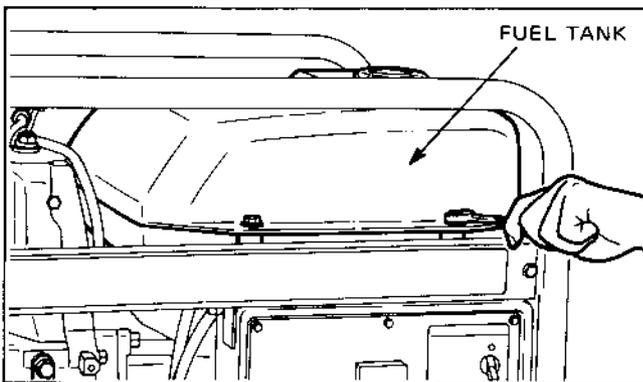

Fig. 10-3
| | | (3) Remove the fuel tank. After removing the nut and washer, remove the fuel tank. (See Fig. 10-3.) 8φ Flange Nut 4 pcs. 8φ Washer 4 pcs. | | 12 mm spanner or box spanner |